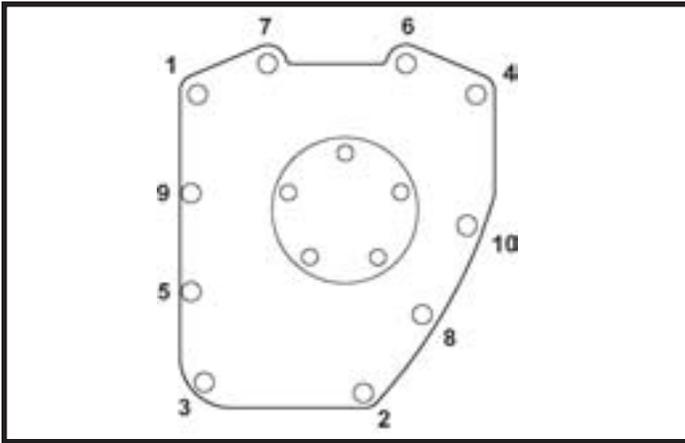

Figure 6
16. Use a new gasket and install cam cover. Tighten cover bolts to 90-120 in-lbs. torque in sequence shown. **See Figure 6.**